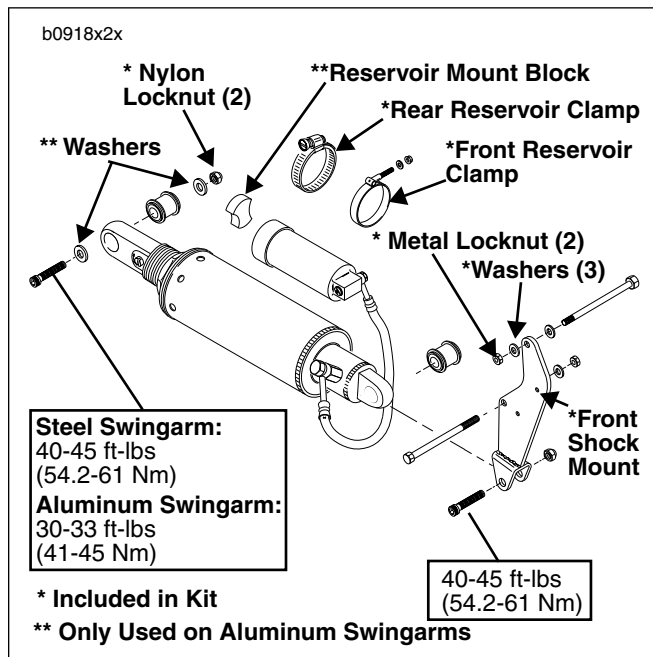

Figure 2. New Shock Absorber Assembly
5. See Figure 2. Use a flex socket and extension to remove locknut and washer from front reservoir clamp. Discard clamp, locknut and washer.
- See Figure 2. Loosen rear reservoir clamp. Slide reservoir and mount block out of clamp. Remove and discard clamp and mount block.
- See Figure 2. Install **new** front shock mount to crankcase with two **new** front shock mount bolts, washers, star washer (on 1997 M2, S3/S3T models only) and metal locknuts. Tighten bolts to 30-33 ft-lbs (41-45 Nm). NOTE: Top bolt goes in from the left side, bottom bolt goes in from right side. Bottom bolt does not use washer under bolt head. Star washer (only used on 1997 M2, S3/S3T models) goes on bottom bolt under the washer on the nut side. If exhaust was loosened during front shock mount removal, replace exhaust gaskets and reinstall exhaust. See appropriate Service Manual, Section 2 for instructions.
4. See Figure 2. Position **new** shock absorber from kit in mounting position.